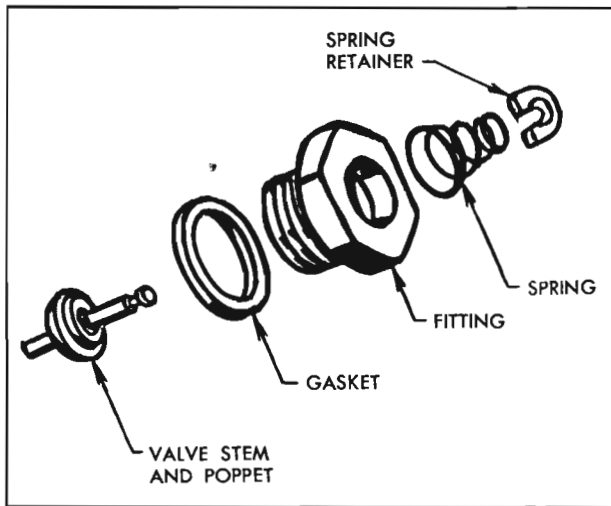

Figure 9-38—Compensating Valve Assembly
19. Clamp compensating valve fitting in vise. Spread and remove spring retainer. Then remove spring, valve stem and poppet. Remove fitting gasket from fitting. See figure 9-38.
1. To assemble compensating valve, clamp fitting in vise, then insert valve stem and poppet through hole in fitting from threaded end. Assemble large diameter end of spring over stem, hold valve poppet on seat, compress spring and assemble new spring retainer washer in groove of valve stem. See figure 9-38. Squeeze ends of washer together with pliers. Assemble new gasket over threads of fitting. *Do not install compensating valve assembly in hydraulic cylinder at this time.*